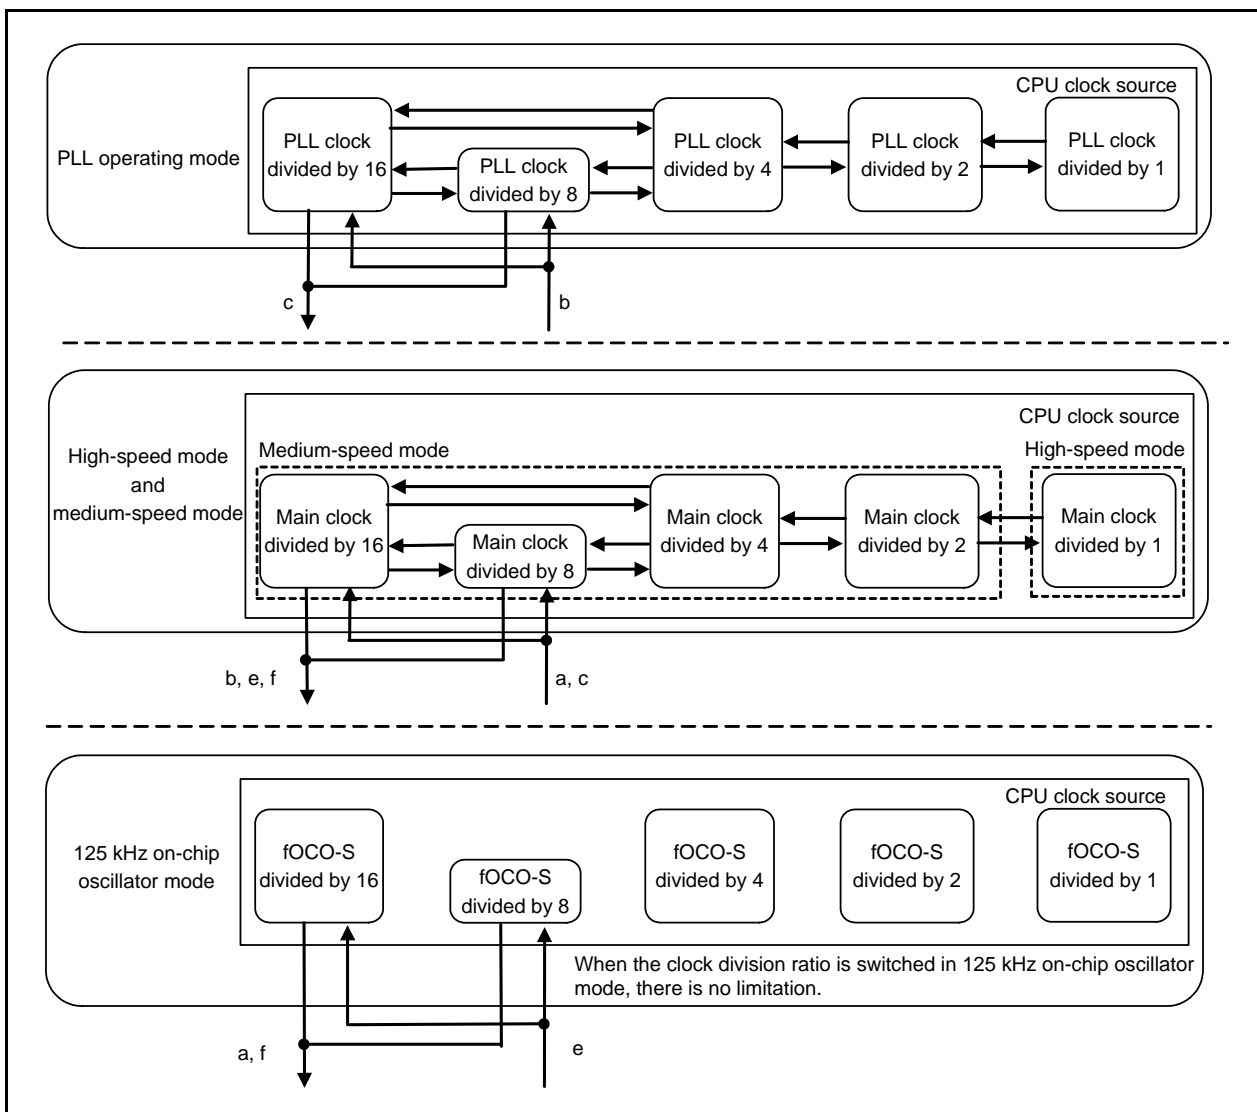

Figure 9.2 Clock Divide Transition
- When the clock division ratio is switched in PLL operating mode, or high-speed or medium-speed mode, the ratio changes in the order shown in Figure 9.2.
- To change the mode, follow procedures listed below. For details on register and bit access, refer to 9.2 “Registers”. Letters a to c and e to h correspond to those in Figure 9.1 “Clock Mode Transition” and Figure 9.2 “Clock Divide Transition”.